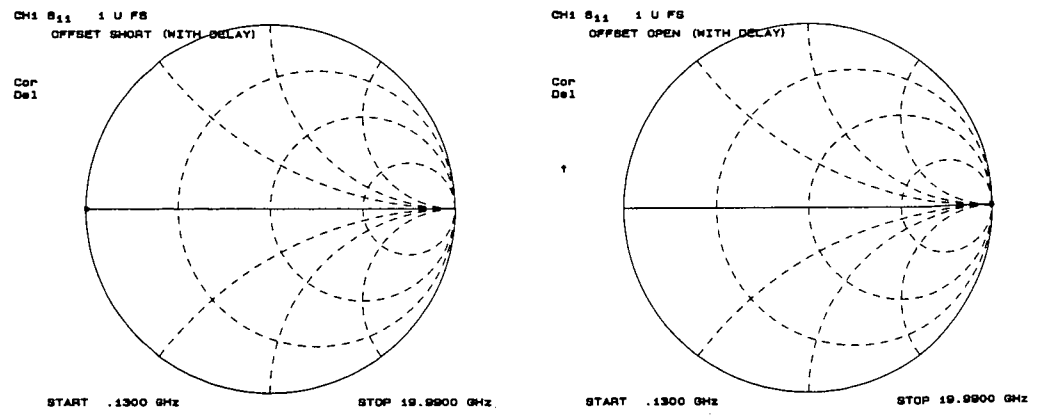

Figure 4. Typical Smith Chart Traces of Good Short (left) and Open
3. Connect the good open to port 1. Press **[SCALE REF]** **[ELECTRICAL DELAY]** and turn the RPG to enter enough electrical delay so that the trace appears as a dot at the right side of the circle (see Figure 4, right).